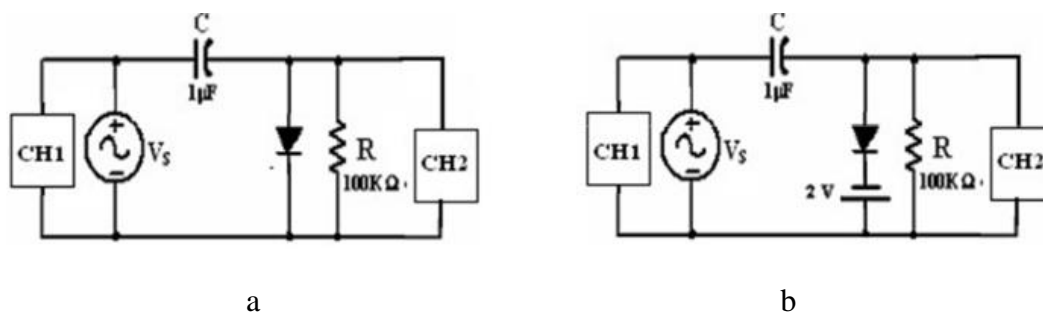

Figure 3.11: Negative Clamper circuits.
- 1- Construct the circuit shown in Figure 3.11, where the supply  $V_s$  is sinusoidal signal with  $8\text{V}_{\text{pp}}, 100\text{Hz}$ .
- 5- Switch OFF the Function Generator, and insert 2VDC power supply as shown in Figure 3.11 (Negative Clamper with bias), then switch ON the Function Generator and repeat step 3.
**Negative clamper of figure 3.11 a**
**Negative clamper of figure 3.11 b**